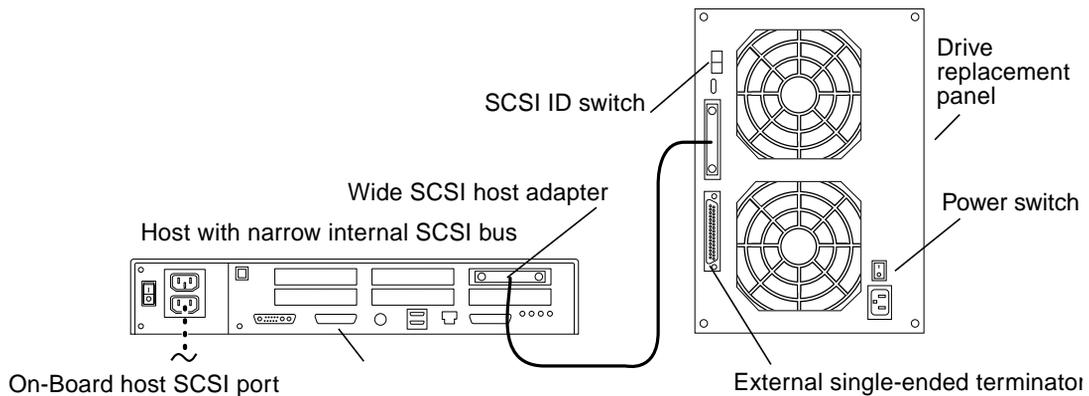

FIGURE 1-1 Sun StorEdge MultiPack unit with a SPARCstation 20—Rear View
2. Shut off the power to the Sun StorEdge MultiPack unit (FIGURE 1-1).
3. Disconnect the SCSI cable and the power cord from the Sun StorEdge MultiPack enclosure (FIGURE 1-1).